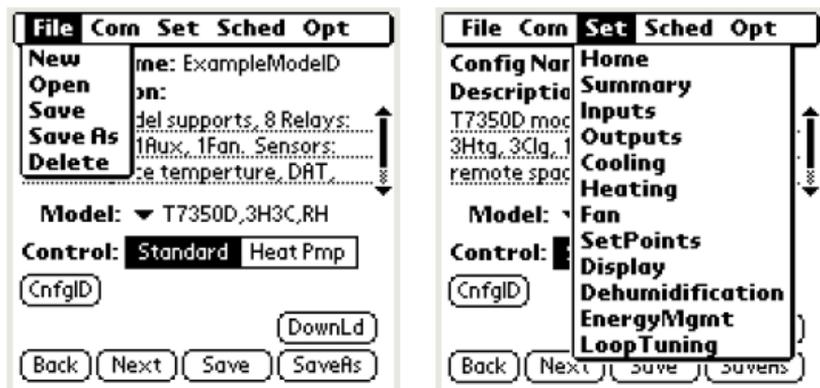

Fig. 7. Advanced Navigation menu.
2. The tool replaces the title tab with the Advanced Navigation menu (see Fig. 7).